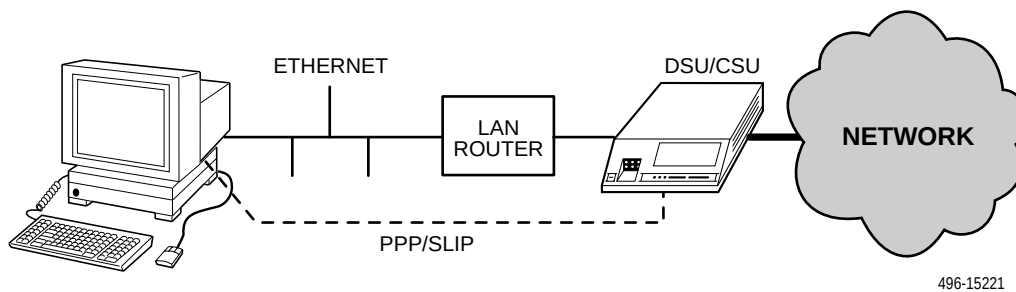

Figure 2-4. Direct Connection
- Directly connecting the COM port to the SNMP or Telnet device (Figure 2-4, Direct Connection).